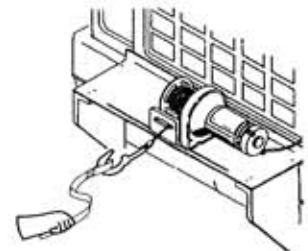

Figure 2
14. KEEP CLEAR OF WINCH, WIRE ROPE, AND HOOK WHEN OPERATING WINCH. Use the handsaver bar when rewinding the last few feet of wire rope into winch (See Figure 2).